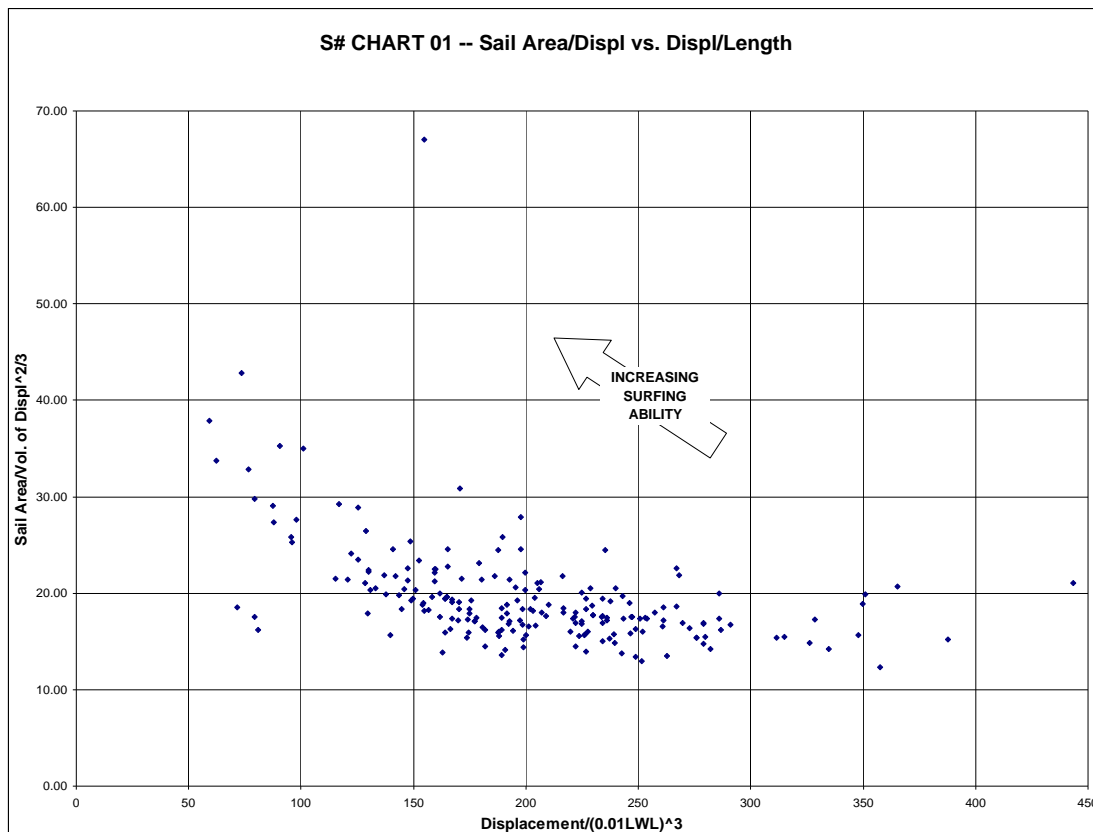

Figure 9. SA/D Ratio versus D/L Ratio.
So, we know that SA/D is a power-to-weight ratio—the higher this ratio, the faster the boat will be. And from our last lesson, we know that Displacement-Length Ratio, DLR, is an indicator of drag—the higher this ratio, the slower the boat would be. We can learn some interesting things if we plot the SA/D ratios versus the DLR ratios for any given population of yachts, such as in Figure 9 above.
Now we have a way to definitively categorize boats, not a wishy-washy, vague notion; we got a unique number for each and every design! I attach the spreadsheet that I used to calculate the SAD and DLR numbers in that chart I posted last week (S# Chart 01, Figure 9, in the previous chapter). Included in that spreadsheet is the S# calculation (pink column), and next to that is the category name for each boat. I sorted the data according to descending values of S# so that you can see how the categories play out. Also included in the spreadsheet is S# Chart 01 of SAD vs DLR for these boats. There are other charts there, too, which you can study or modify at your leisure.
**Figure 10.** Same as Figure 9 but with contours of S# and the four different categories of boat type overlaid. Some SYDI designs, as mentioned in the text, are also labeled.